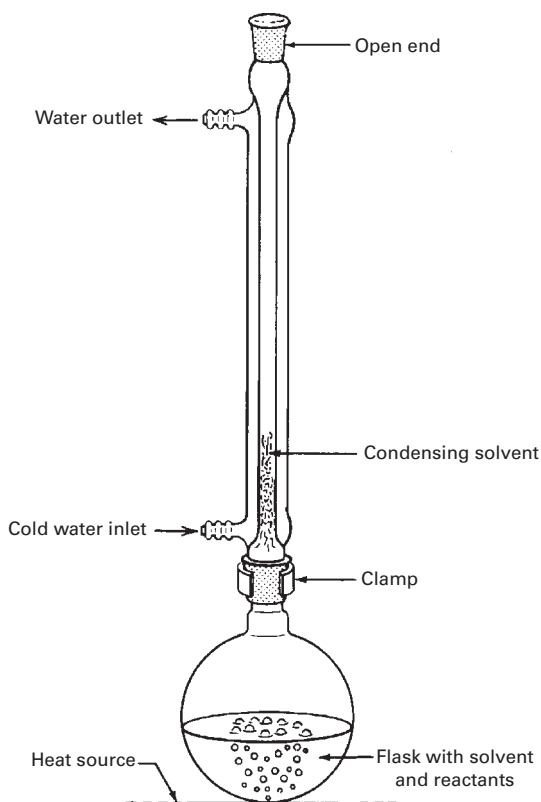

FIGURE 22.1 A reflux setup.
5. Place a condenser, upright, on the flask, connect the condenser to the water faucet, and run water through the condenser (Fig. 22.1). Remember: in at the bottom and out at the top.